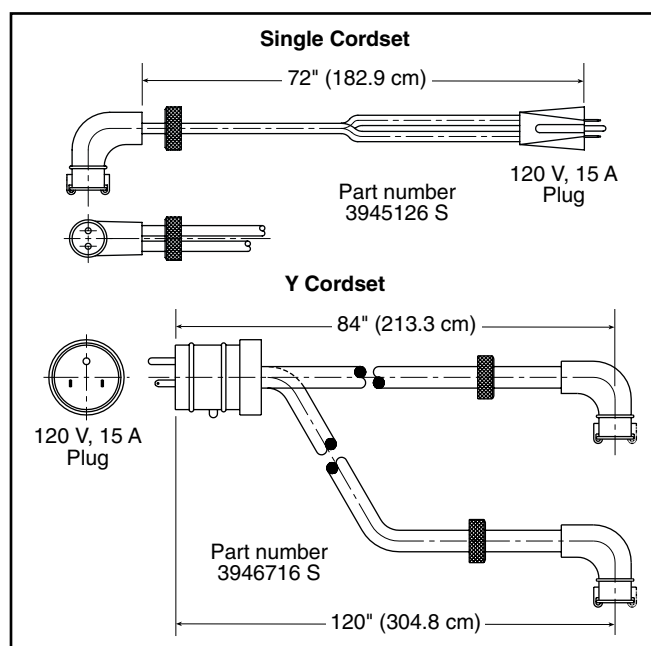

Figure 9 – Electric Heater Cordsets
3. Two types of cordsets are available for the 120 VAC/75 W heater(s) (see Figure 9).
11. **Original Unit:** Rotate the valve handle (see Figure 9) until the arrow points to Both in Operation or to the Single unit to be in operation.